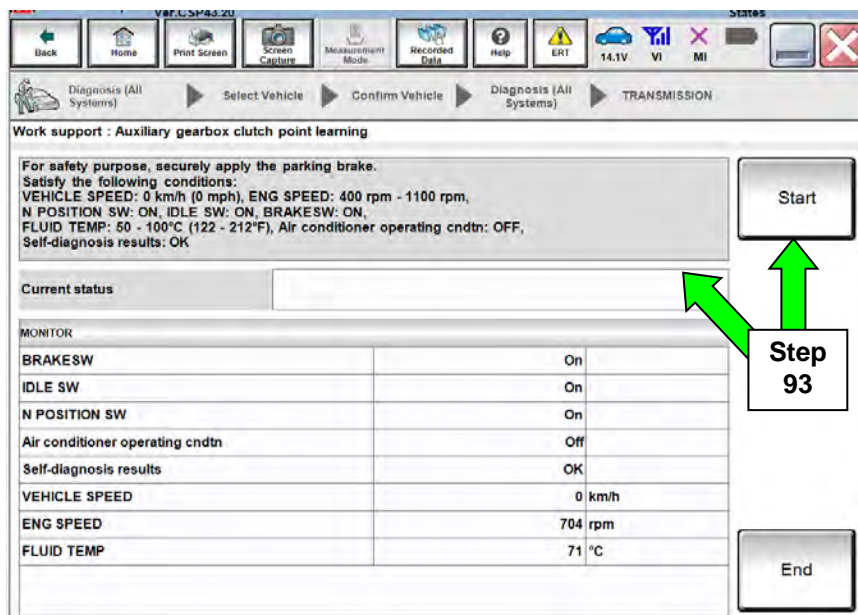

Figure 51
93. Follow the on-screen instructions in Figure 51 and then select **Start**.